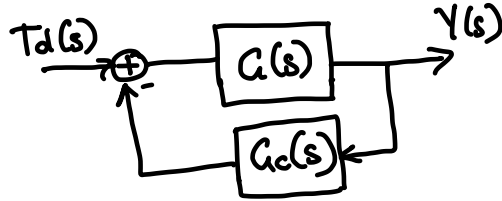

Figure 2: A equivalent diagram for Fig. 1 when  $R(s) = 0$  and  $N(s) = 0$ .
- (m) Observe that in the absence of an input signal and the noise signal, we can redraw the closed-loop in Fig. 1 in the form in Fig. 2.